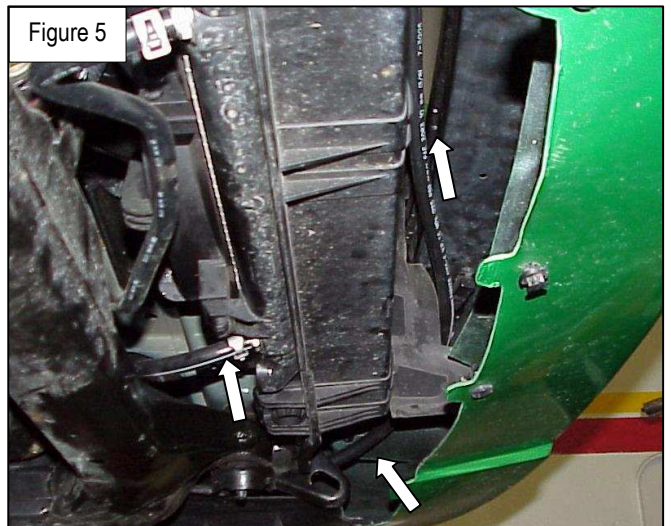

Figure 5
7. You will now be installing the hoses at this time. The hose coming out of the radiator will be going to the cooler. It will run along the top of the cross member towards the baffle of the air box. At this point it will make a 180 deg turn and come back towards the front of the fascia and go through the indicated area shown in **(fig.5)** and up to the cooler. The return line off the cooler will be going back to the transmission hard line that you disconnected earlier. It will follow the same path as the feed line of the cooler. Use the provided hose clamps to make a secure seal on the new lines installed.